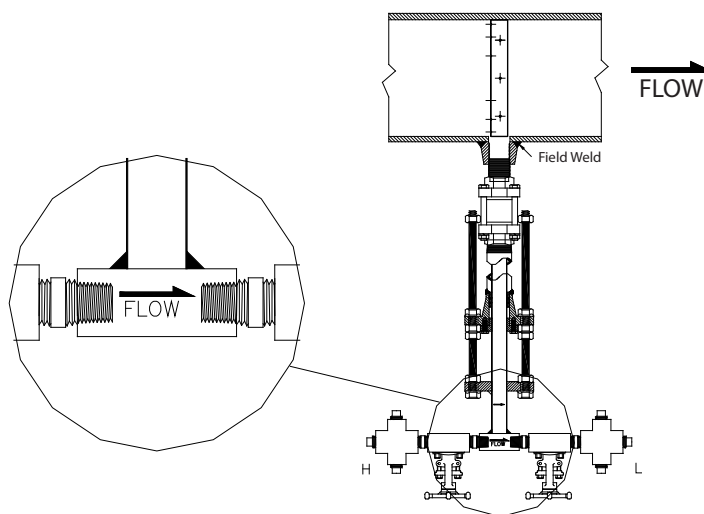

Figure 4: Sensor alignment
7. Install the cage nipple, cage nipple assembly and packing gland with the threaded rods assembly by threading it into the isolating valve. Align the arrow on the sensor head with the direction of flow. See Figure 4.